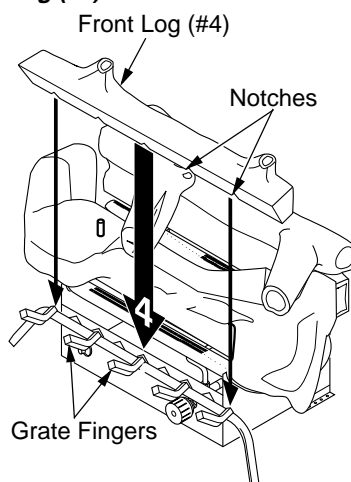

Figure 25 - Installing Front Log (#4)
4. Locate the notches in the bottom of the front log (#4). Place the front log on the grate fingers. Make sure the notches of the front log line up with the grate fingers. See Figure 25.